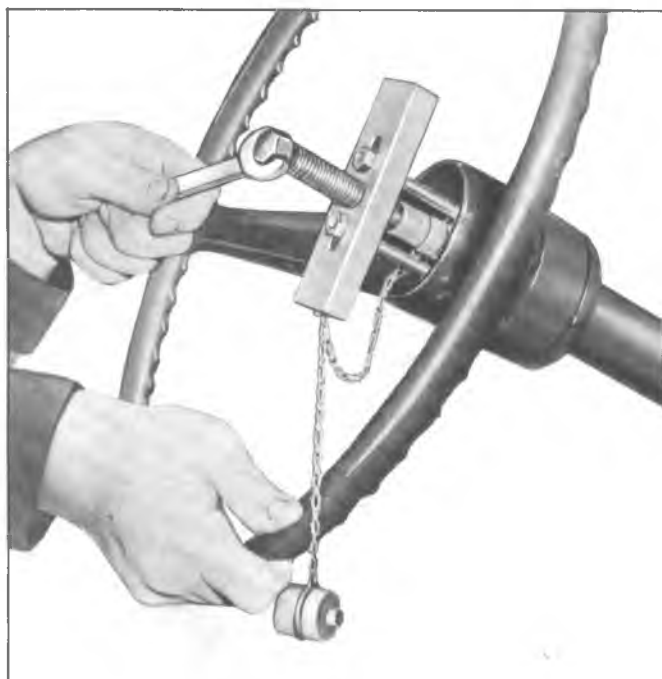

Fig. 8—Steering Wheel Removal
4. Use Tool J-2927 to remove wheel (fig. 8).